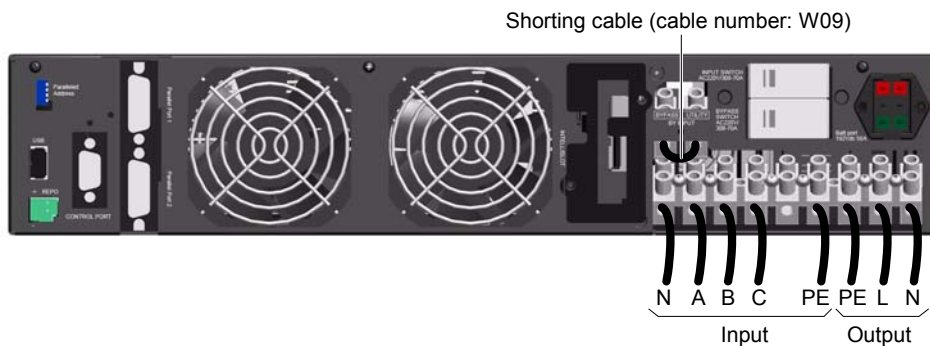

Figure 2-20 Cable connection for 3-input 1-output, common source configuration
6. Connect the main input live line (phase A, phase B and phase C), N line and PE line respectively to the input live line terminal (U), input live line terminal (V), input live line terminal (W), input neutral line terminal (N) and input earth line terminal (PE) of the UPS I/O terminal block, and tighten the fixing screws. The input live line terminal (U1) is not connected, as shown in Figure 2-20.
7. Connect the output L line, N line and PE line respectively to the output live line terminal (L), output neutral line terminal (N) and output earth line terminal (PE) of the UPS I/O terminal block, as shown in Figure 2-20.
6. Remove the shorting cable (cable number: W09, see Figure 2-20), connect the input bypass line to the BYPASS terminal of the bypass terminal block, and tighten the fixing screws, as shown in Figure 2-21.